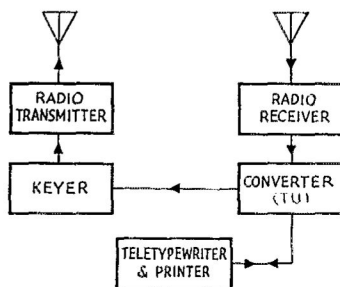

Fig. 1—Block diagram showing a typical RTTY setup.
UP to now there have been few well-engineered RTTY converters available either commercially or in war surplus for radio amateurs interested in teletype. Home-brewed terminal units (TU) or converters have been the order of the day. Some good designs have evolved¹ and met the test of amateur practice. The features required for optimum performance in amateur RTTY operating have now been combined in a unit that is simple to handle and dependable in performance. This unit, the Alltronics Model K Telewriter converter, operates on the audio impulses received from the output of any reasonably-stable communications receiver. These signals are converted to provide timed d.c. impulses for printing RTTY signals. The block diagram in Fig. 1 indicates the different elements that make up a complete receiving and transmitting system and, except for the teletypewriter-printer, the terminal unit is probably the essential component that non-RTTY amateurs may require to adapt their existing stations for RTTY operation.